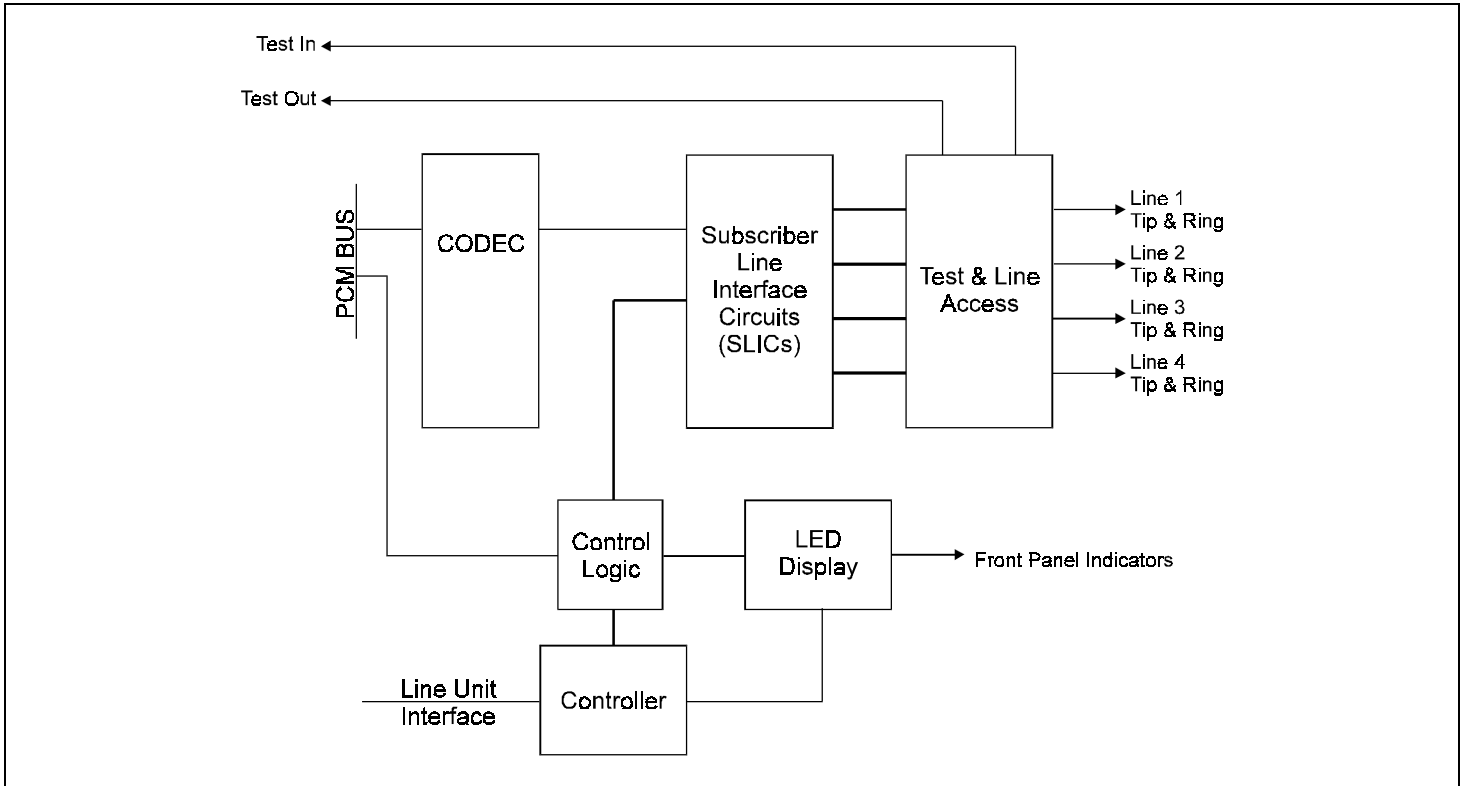

Figure 3. FLC-701 Block Diagram.
6.02 A block diagram of the FLC-701 Channel Unit is shown in Figure 3. One 4-Channel COT Channel Card supports four POTS interfaces.